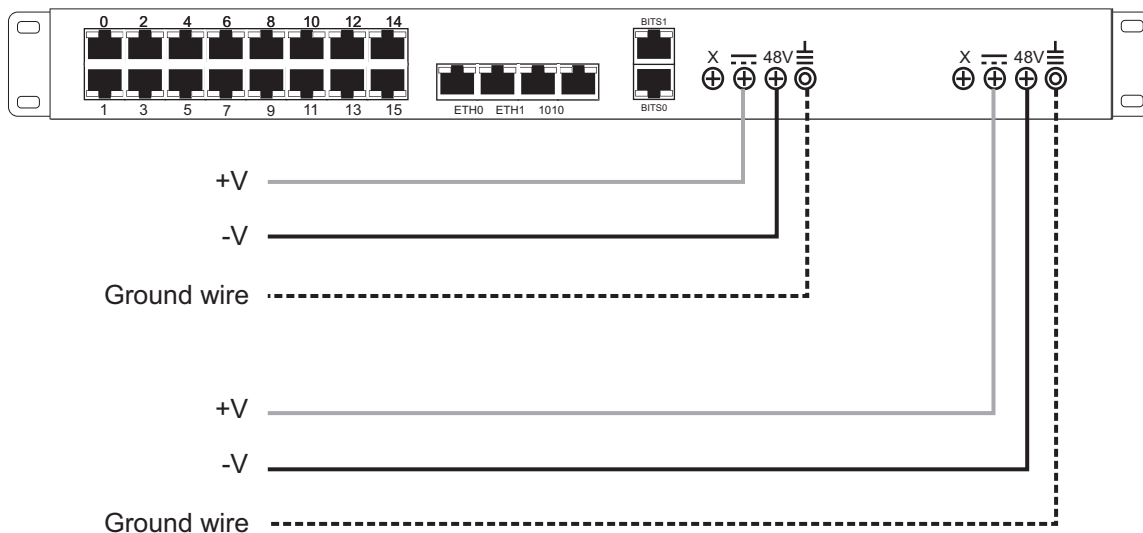

Figure 2.34 7800-TMS DC wiring diagram
1. Connect a ground wire to the ground lug located at the rear of the 7800-TMS, as shown in figure 2.34 on page 43.